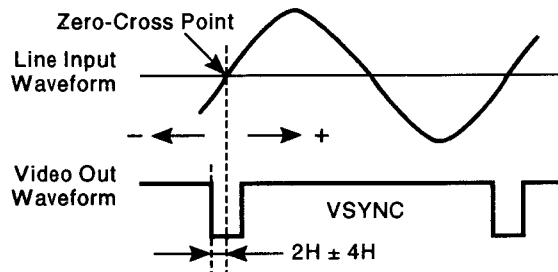

Fig. 5-7
- Adjust data with the **ARROW** keys so that the Decay point of V Sync signal coincides delays $2H \pm 4H$ from the zero cross point of the AC Power source as shown in Fig. 5-7.